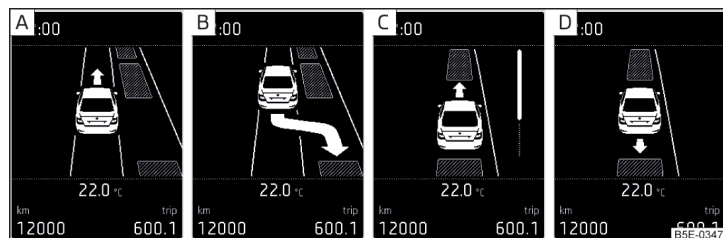

Fig. 141 Display
If the system has recognised a suitable parking space, this parking space is shown in the display » Fig. 141 - .
- Continue driving forwards until the display appears » Fig. 141 - .
- If the arrow in the display flashes forward » Fig. 141 - , then the 1st gear is to be engaged or the selector lever is to be moved into position **D / S**.
- If the backwards arrow is flashing in the display » Fig. 141 - , select reverse gear again or move the selector lever into position **R**.